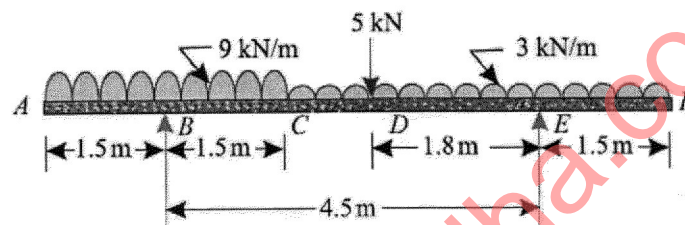

FIG.3
17. A beam ABCDEF of 7.5 m long and span 4.5 m is supported at B and E. The beam is loaded as shown in Fig.3. Find the support reactions at the two supports.